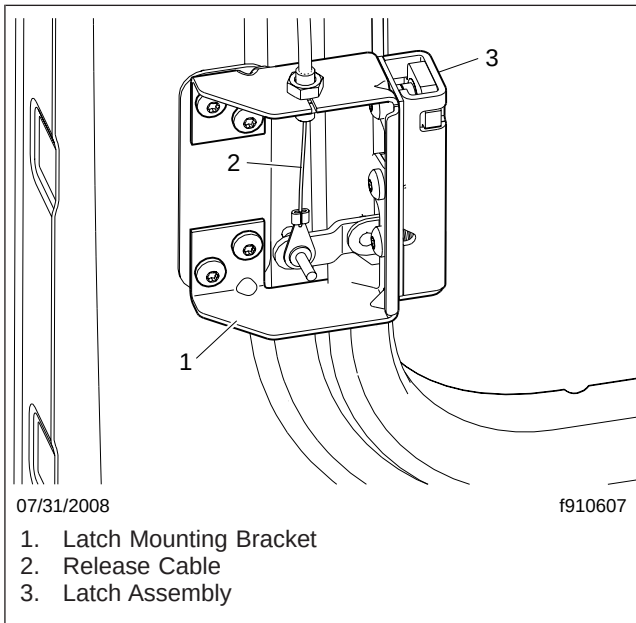

Fig. 3, Baggage Door Latch Installation
3. Remove the four Torx screws that attach the latch mounting bracket to the cab wall. Remove the latch and bracket assembly; see Fig. 3.